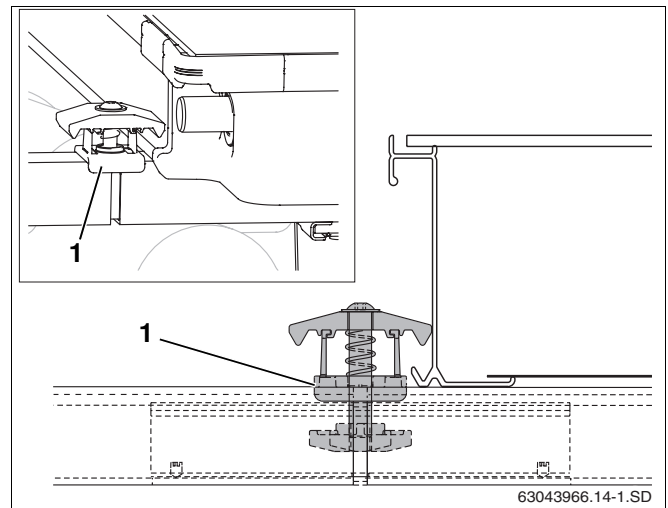

Fig. 44 Fitting a double-sided collector clamp
- Insert the double-sided collector clamp, nut first, into the opening made by the profile rail and plug connector so that the plastic spacer (Fig. 44, **Item 1**) surrounds the profile rail.